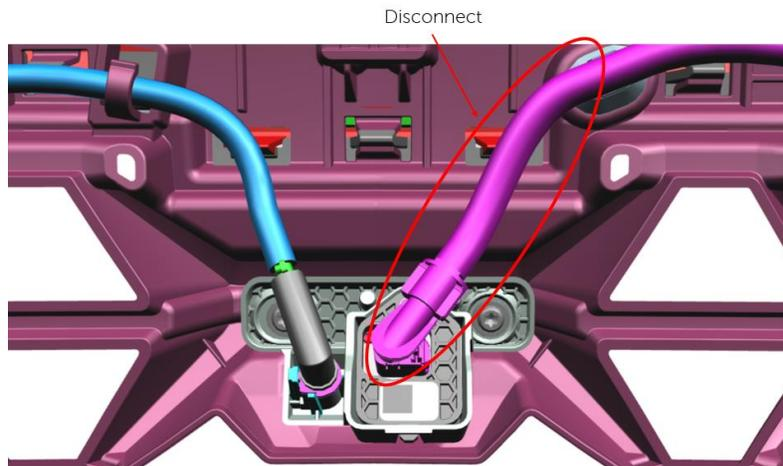

Figure 12
- A. Fully disconnect camera harness from grille fascia retention – this will re-route through AEV lower weldment. – Fig. 12